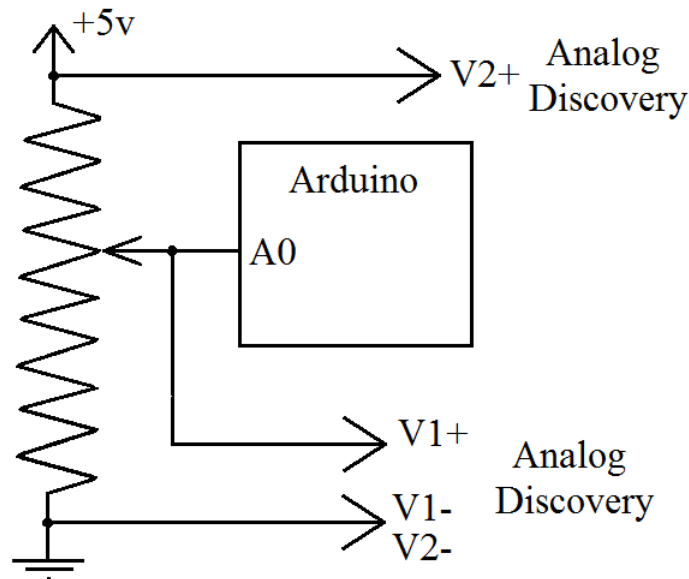

Figure 9-1. Analog Input and Output.
The potentiometer was described in class, and consists of a resistor that has a sliding contact. As the contact moves the voltage at the contact varies between the voltage at the either end of the resistor. The diagram in Figure 9-1. shows how the potentiometer will be used in this lab, allowing us to apply a voltage of 0 to 5 volts to the ADC input on the Arduino. Also shown are connections to the Analog Discovery (AnaDisc) unit, which will be used to test the voltages read by the Arduino. The AnaDisc will be used to test the 5 volts provided by the Arduino.
- 2) Attach the AnaDisc's analog lines to your board as shown in Figure 9-1. Set the Waveform software up to measure the average value of the two voltages and repeat part 1, except this time compare the voltage from the AnaDisc with those being printed by the Arduino.